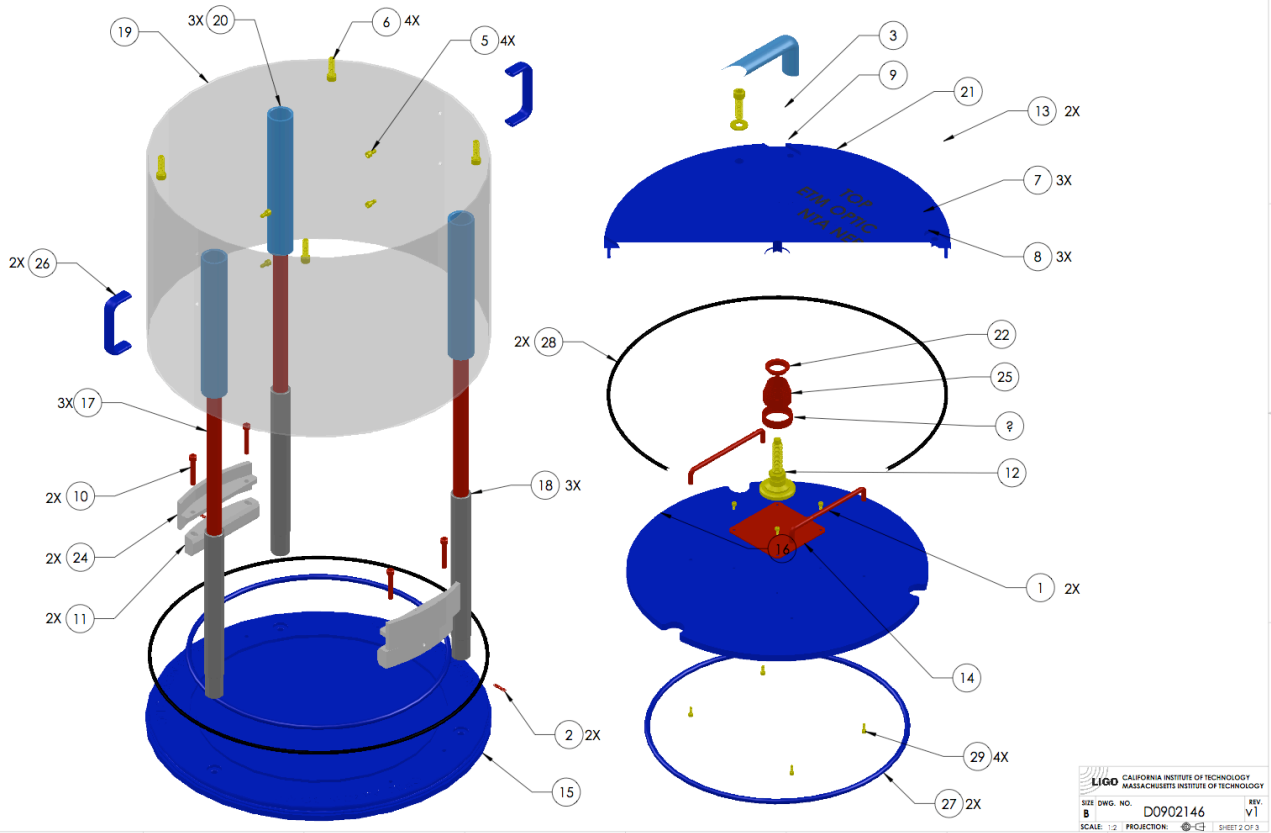

Figure 1: ITM Optic Container Assembly
All numbers () reference Figure 1.
- Shipping sleeves in place when shipping empty (20 in Fig. 1)